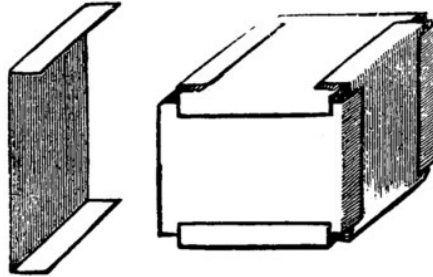

Fig. 4.
(5) *The Puzzle Box*.—Take six visiting-cards and bend them as in Fig. 4. The puzzle is to put them together in the form of a box, making them fasten each other. The box will bear rough usage. This is done by fitting the cards together as in Fig. 4, when they will be found to fasten each other.